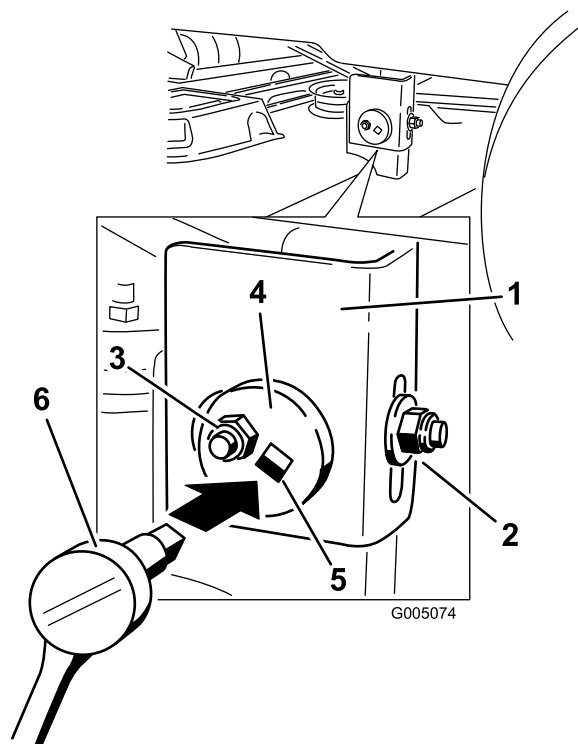

Figure 42
- Move to the left side of the machine. Loosen, but do not remove, the rear locking nut on the hanger bracket (Figure 42).
- Loosen the side locking nut on the hanger bracket just enough to allow the eccentric plate to be adjusted (Figure 42). Use a 3/8 inch drive extension on a socket wrench to manipulate the eccentric plate. Use the wrench to reposition the height of the mower deck and adjust to the desired height.
- Stop the deck at the adjusted position and tighten the side locking nut on the hanger bracket to hold the new position (Figure 42). Tighten the rear locking nut on the hanger bracket.